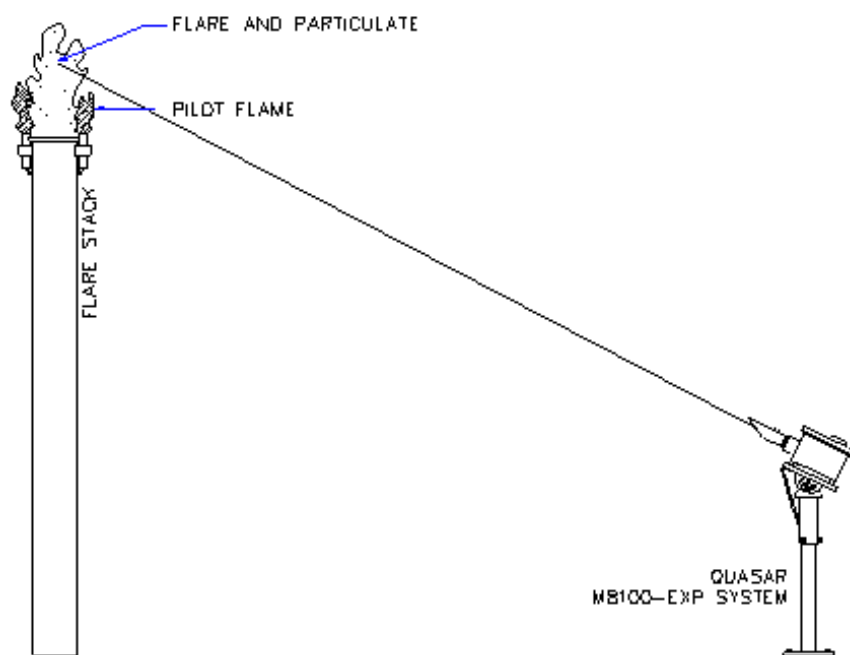

Figure 11: Instrument Aiming Concept
(Item numbers refer to and Figure 11: Opto-Electronics Module)
(See Figure 11, Opto-Electronics module):
- a. Keep the Delay set at the present value and adjust the System Gain (Figure 11, item 4) counterclockwise no more than two complete turns, just until the "chatter" stops. Be sure to keep track of the number of turns. If the chatter stops, proceed to step b. If chatter doesn't stop, proceed to step c.
5. Adjust the set-point pot (Figure 11, Item 10) to be above the unacceptable condition observed in step 4 by .2 divisions on the meter.